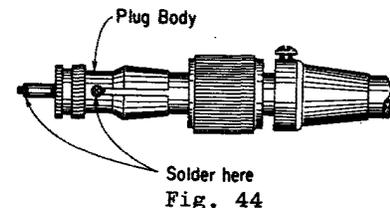

Fig. 44
- (d) Thread cable into plug body until shield is in line with holes. See Fig. 44.